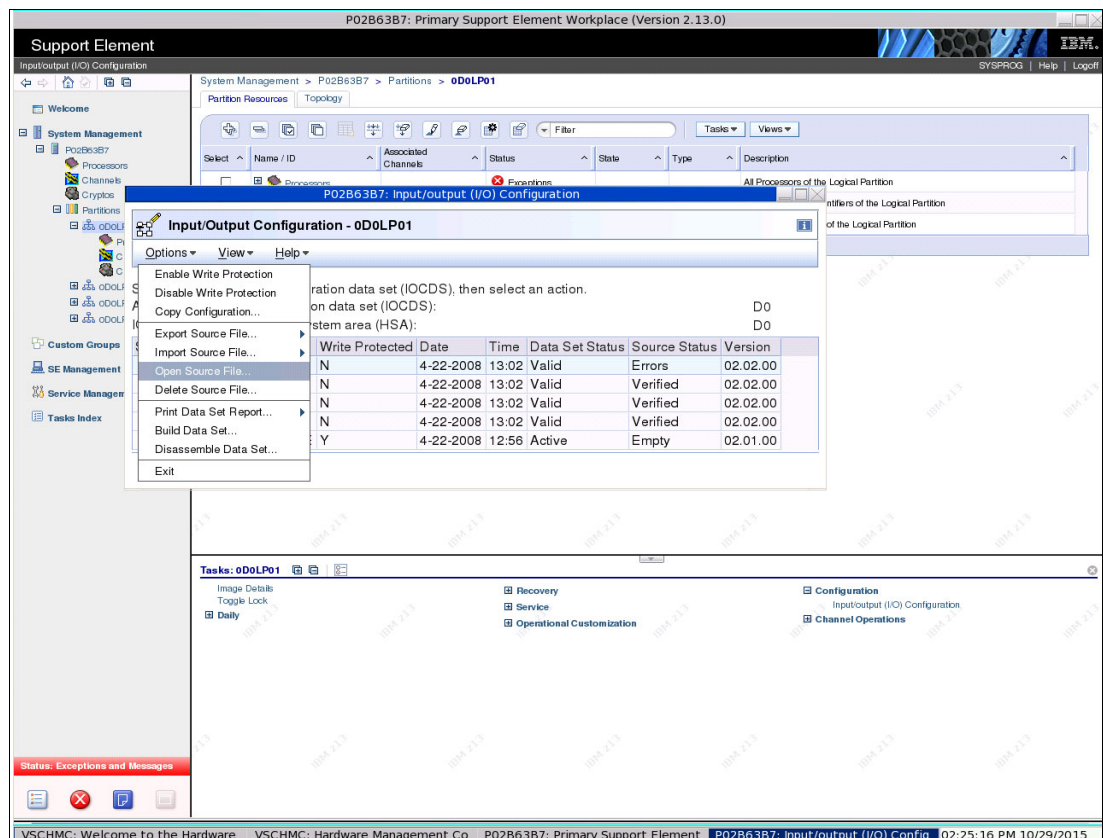

Figure 5-25 Open source file to examine error messages
8. We select **OK**, which returns us to the Input/Output Configuration window. We select **Options** → **Open Source File** to display the source file with the error messages, as shown in Figure 5-25.